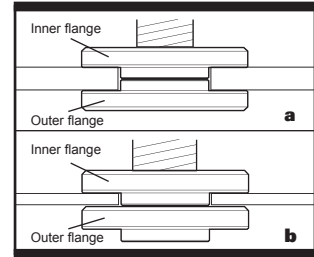
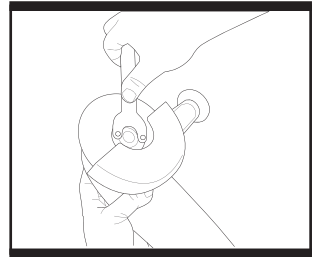

Fig. 6
Fig. 7
## 5. DISC FITTING (Fig. 6 & Fig. 7 & Fig. 8)
Press the spindle lock button (1) and rotate the spindle until it locks, then firmly tighten the outer flange using the provided spanner to clamp the disc. The pins on the spanner locate in the holes on the outer flange (Fig. 7).